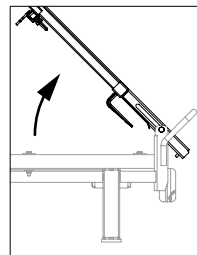

Fig. A7.07b
2. Fold guardrail (62.1) upwards until the guardrail is at right-angles to the decking. (Fig. A7.07b + A7.07c)